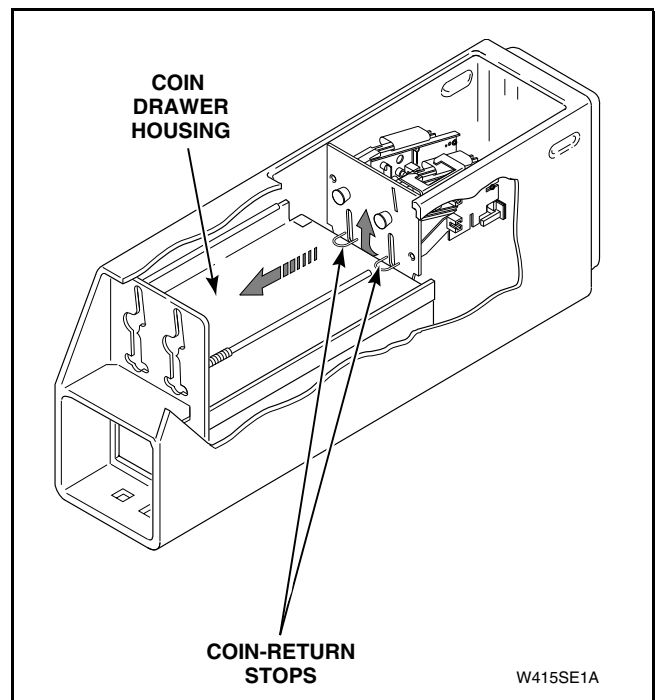

Figure 22
- (3) Rest the two coin-return stops on top of the coin drawer housing, as shown in *Figure 22*.